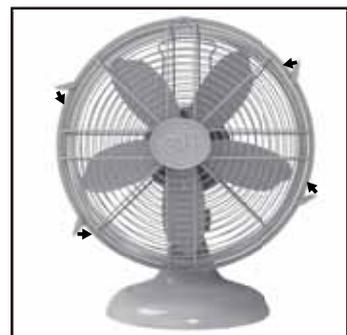

Figure 13
8. Secure the grills completely together by snapping the 4 grill clips into place. Figure 13.